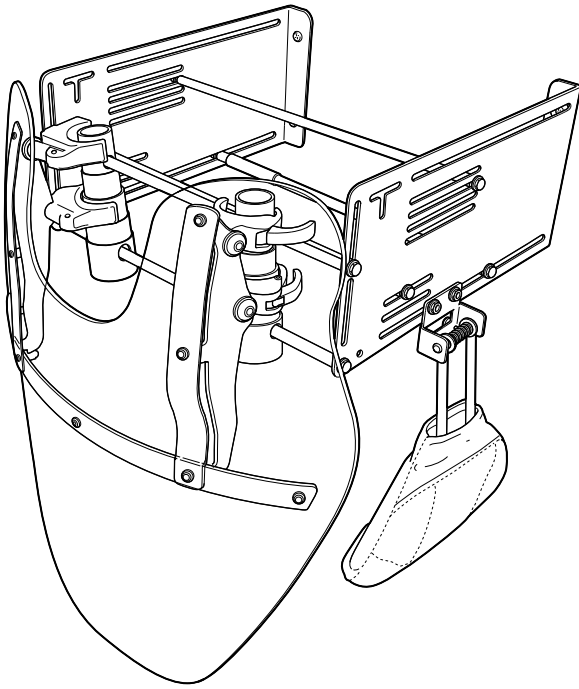
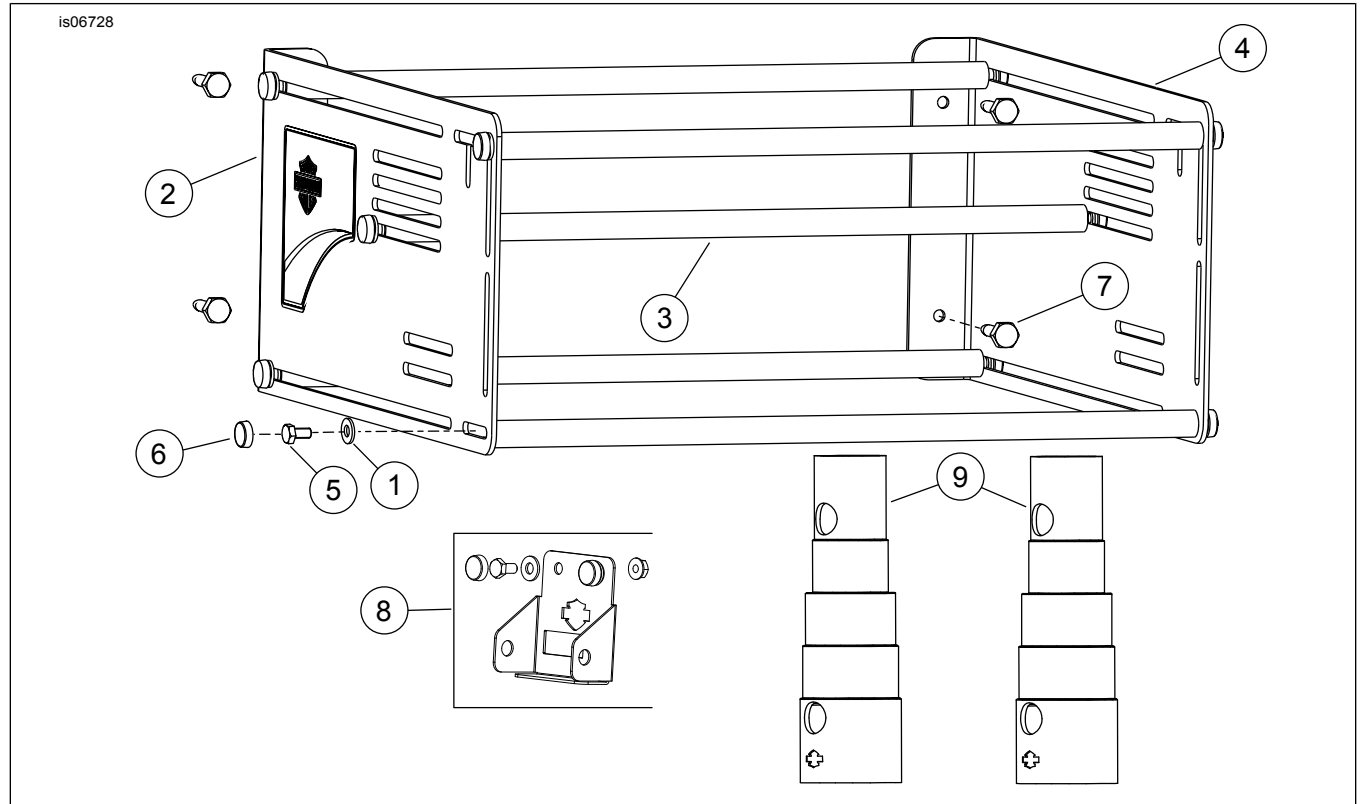

Figure 2. Wall Rack with Quick Release Windshield and Rider Backrest attached
Figure 5. Service Parts: Detach Depot Wall Rack
See Figure 5 and Table 1.
1. See Figure 5 and Table 1. Assemble the wall storage rack using rods at all four corners.
2. Use a level to draw a line across the studs where the rack will be mounted. Hold the rack up to the line to mark where the mounting holes will be. You may want to use a drill and a small drill bit to drill pilot holes for the lag bolts (7).
2. The adjustable rods can be mounted to any open slot on the sideplates. Configure the adjustable rods in a manner that best suits your particular accessories. One rod may be used to attach two different detachables. See Figure 5. Mount the adjustable rods to the sideplates using a washer (1) and screw (5) on each side. You may need to readjust the rods a few times in order to get the configuration correct for first time use. Once the rods are in their proper location, cover the screws with decorative end caps (6).
3. See Figure 2. Quick Release style windshields require separate purchase of a mount kit. The windshields attach to adjustable tubes oriented vertically and in parallel on the front rods.
6. See Figure 2 and Figure 5. Rider Backrests require separate purchase of a mount kit (8). The mount attaches to the bottom slot on the sideplates.